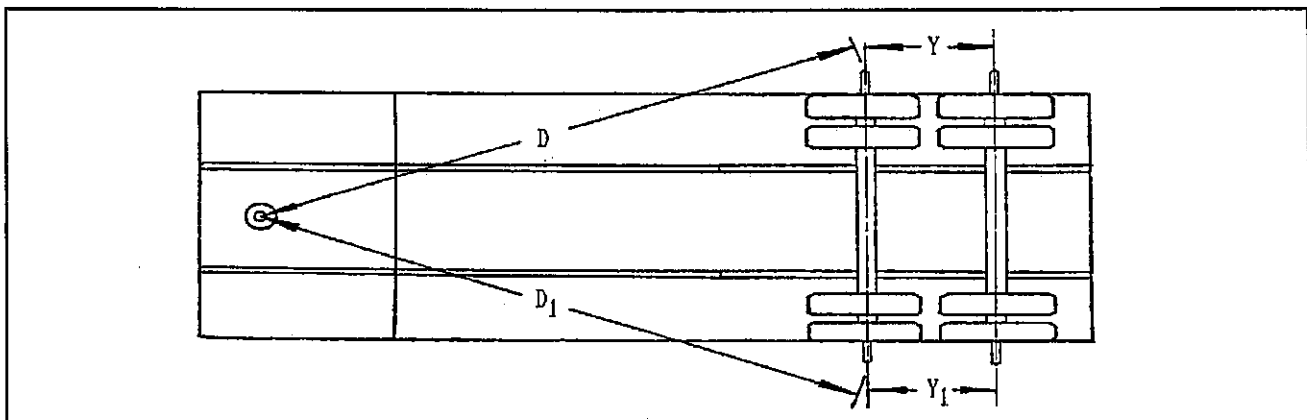

Fig. 4-8 Checking Axle Alignment
e. Measure (D) from the plumb bob to the center point on one end of the axle. Record this measurement (see Figure 4-8).
f. Measure (D1) to the other end of the axle in the same manner as in Step 4. Record this measurement (see Figure 4-8).